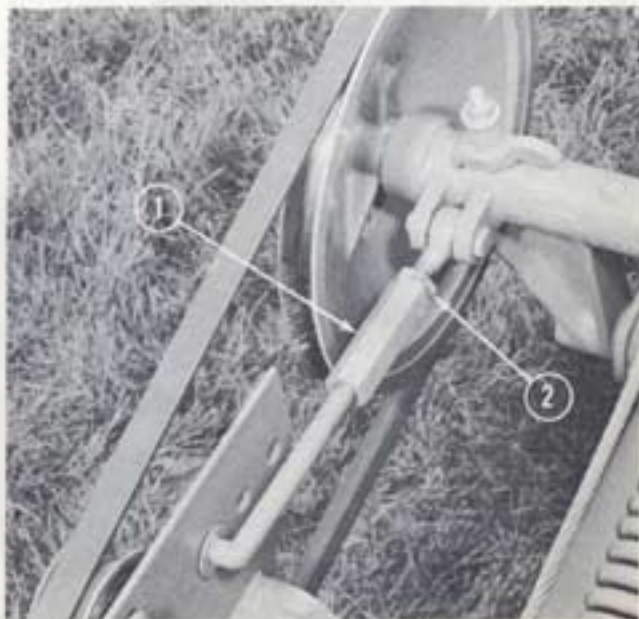

Fig. 35 Belt Adjustment
2. Tighten the belt by means of the belt adjustment turnbuckle (Fig. 35) which pivots the drive shaft housing about its pivot pin. Tighten the turnbuckle until the belt is tight enough so that about 20 lbs. thumb pressure will deflect the belt $\frac{3}{4}$ inch to 1 inch, (at a point midway between the pulleys).